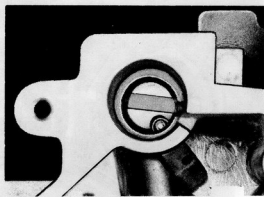

Fig. 13.31 Location of accelerator pump check ball (Sec 8)
- 15 Insert the smaller ball (4 mm) into the accelerator pump bore and the larger ball (4.8 mm) into the drilling for the suction valve spring. Ensure that the pump ball locates in the seating recess as shown in Fig. 13.31.